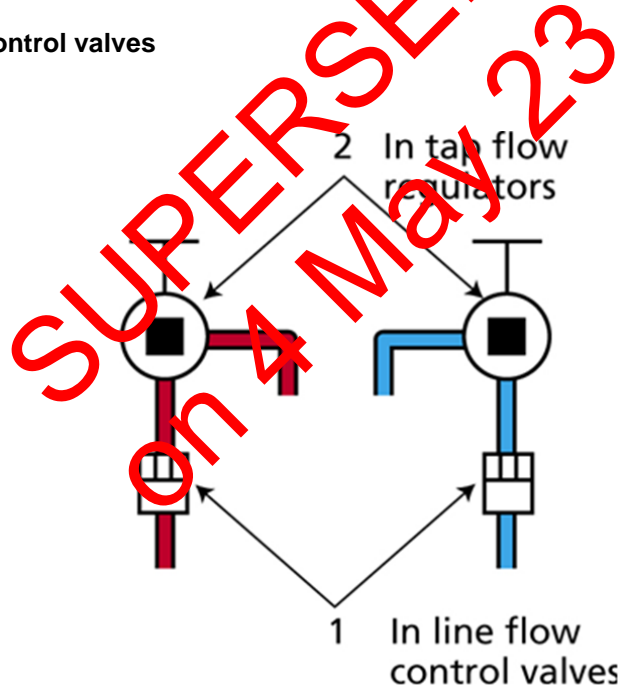

Figure 2: In line flow control valves and in tap flow regulators
- Separate hot and cold pillar or hob mounted taps, refer to Figure 2;
Explanatory Notes: Figures 2 & 3: